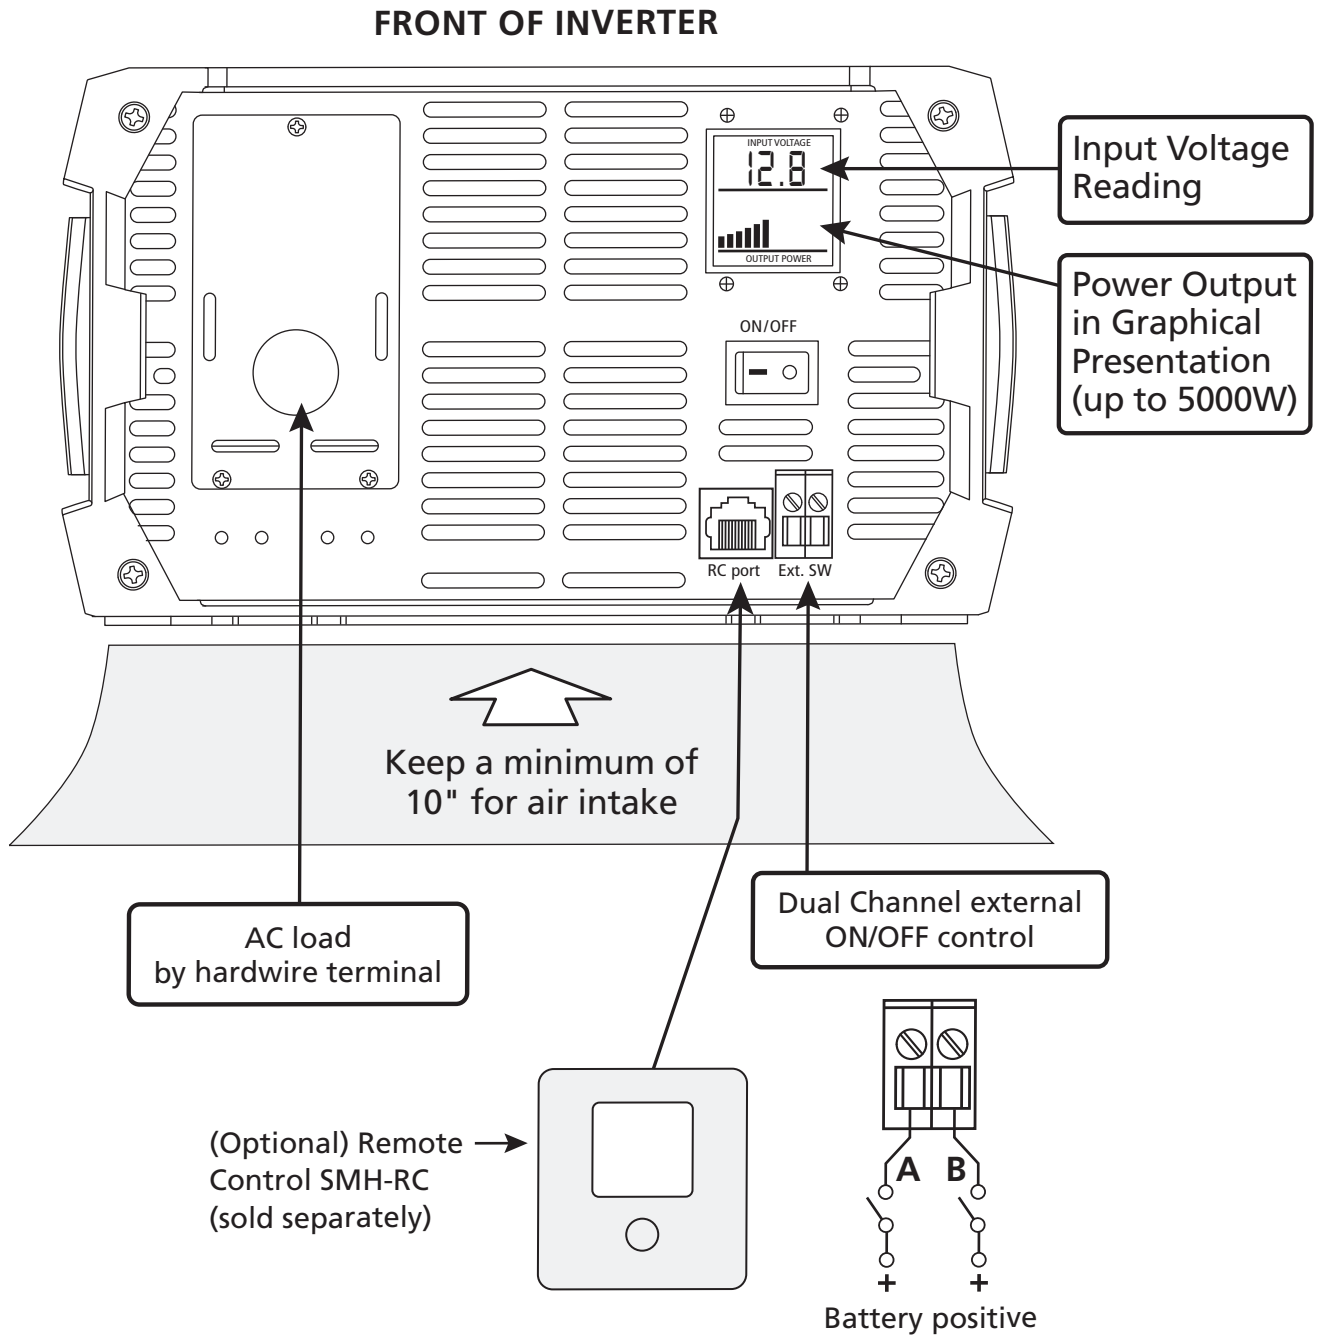
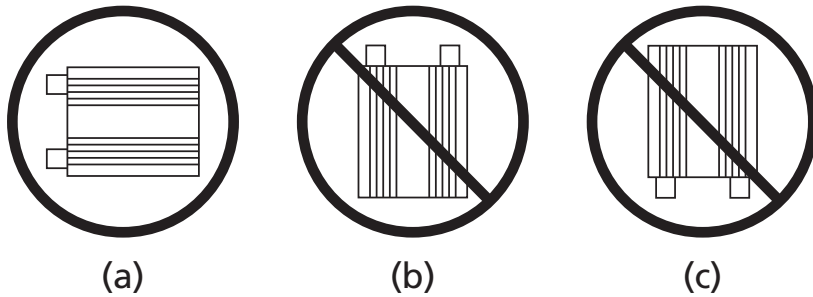

Fig 4.3 Front Connection and Display of the SMH-5000T-12
Fig 4.4
If the inverter is required to be mounted on a vertical surface like a wall, please ensure that the fan axis is horizontal as shown in Fig 4.4(a).
The DC input side has larger ventilation openings Fig 3.1(9) for fan airflow. Mounting with the fan side facing up or down as shown in Figs 4.4(b) or 4.3(c) is NOT permitted due to safety considerations . If mounted as in Fig 4.3(b), metallic or other conductive object(s) may accidentally fall inside the unit through the fan ventilation openings, and create hazardous condition resulting from short circuit of internal high voltage section(s). If mounted as in Fig 4.4(c), hot or molten material from damaged internal portion of the unit due to malfunction may fall on combustible material on the floor and may create fire hazard.